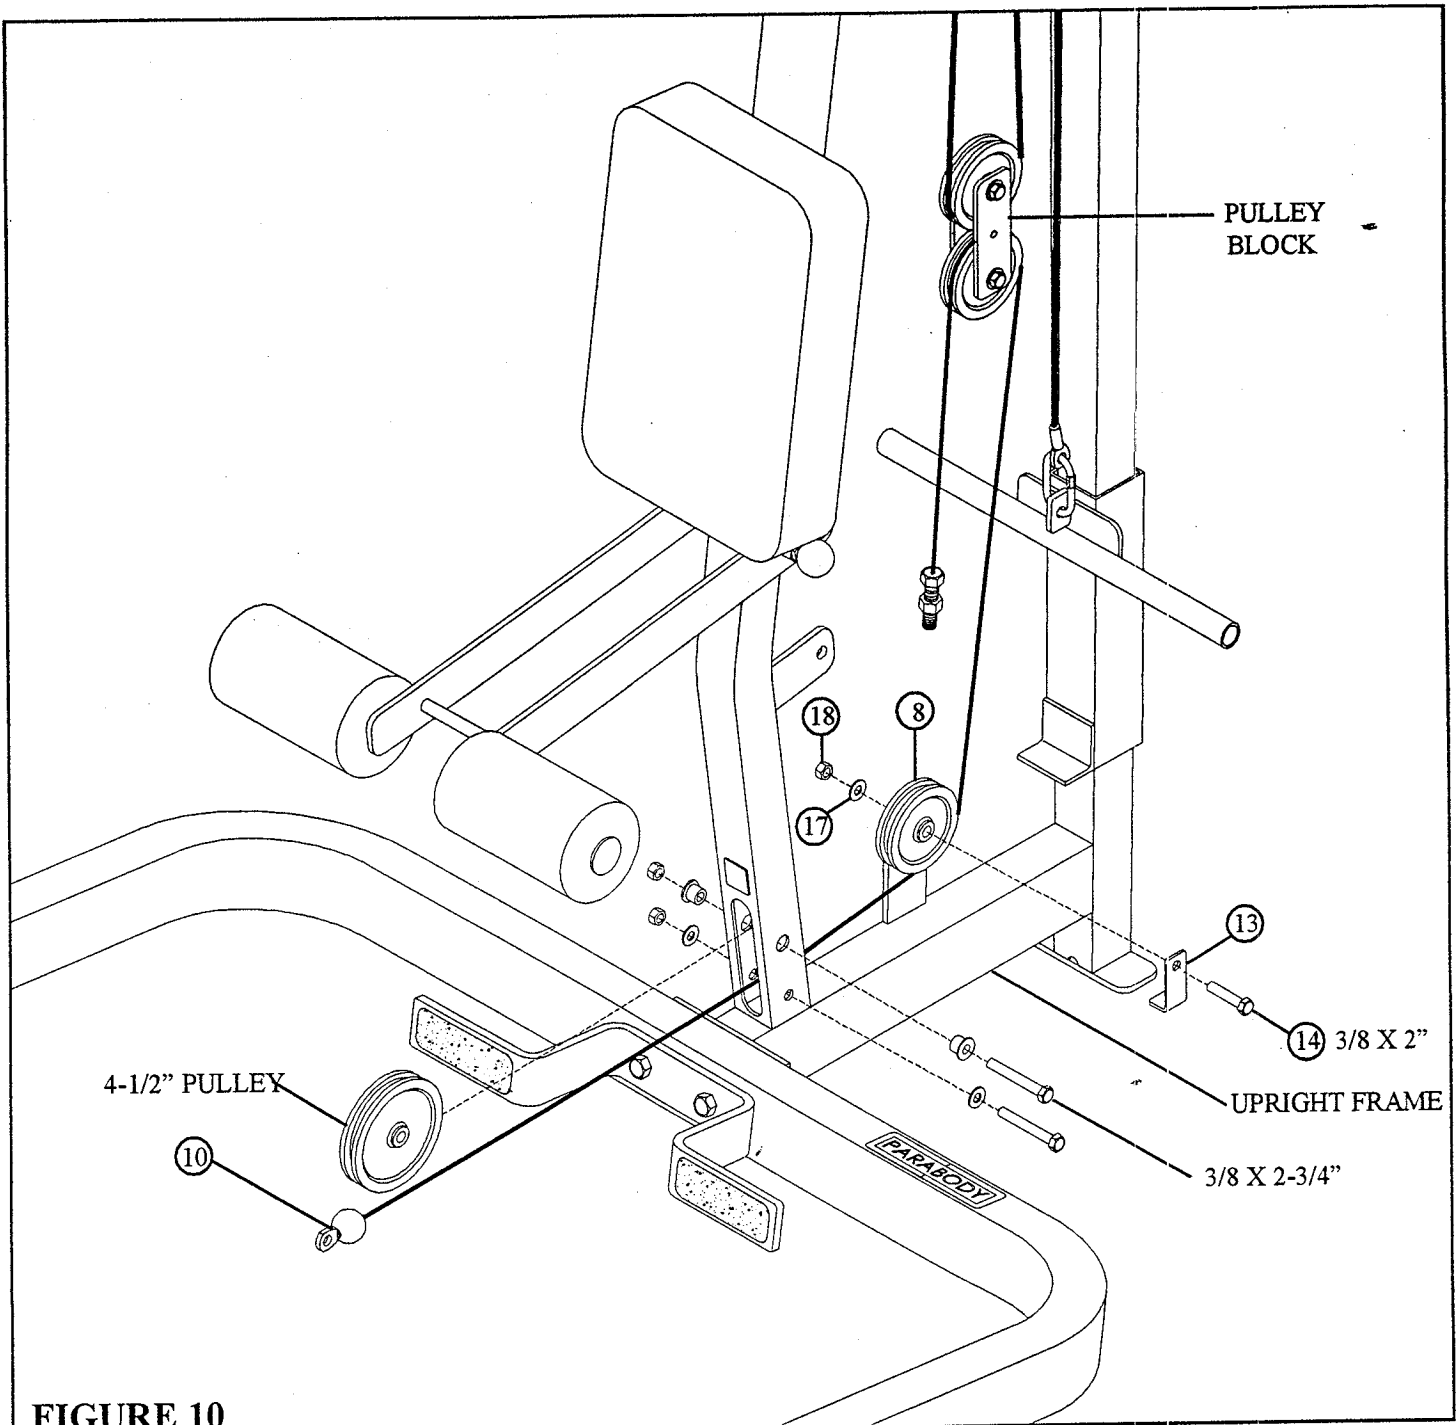

FIGURE 10
- Route the end of the 134-3/4" CABLE (10) through the slot of the UPRIGHT FRAME then **SECURELY** assemble one previously removed 4-1/2" PULLEY to the UPRIGHT FRAME using two previously removed 3/8 X 2-3/4" BOLTS, two 3/8" FLANGE SPACERS, two 3/8" WASHERS , and two 3/8" LOCK NUTS . (NOTE: The CABLE (10) should be routed between the pulley and the retaining bolt as shown in FIGURE 10.)
- Wrap the CABLE (10) around one 3-1/2" PULLEY (8) and **SECURELY** assemble the PULLEY to the plate on the UPRIGHT FRAME using one 3/8 X 2" BOLT (14), one CABLE RETAINING CLIP (13), one 3/8" WASHER (17) , and one 3/8" LOCK NUT (18) . (NOTE: Before tightening PULLEY, make sure RETAINING CLIP is positioned as shown in FIGURE 10.)
- WRAP the CABLE (10) around the bottom 3-1/2" PULLEY of the PULLEY BLOCK as shown in FIGURE 10.